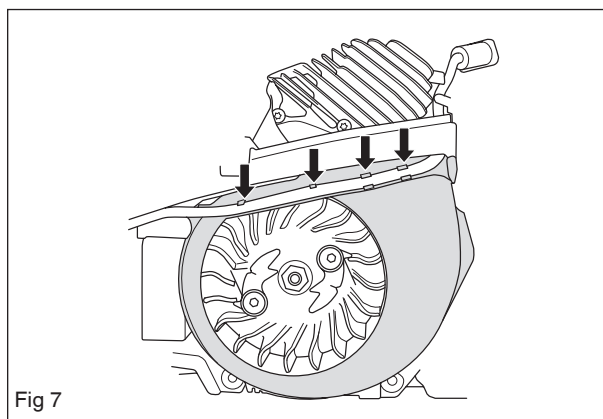

Fig 7
1. Remove the cylinder cover. Remove the starter. Snap off the ignition cable from the guide rail and remove the guide rail. See figure 7.